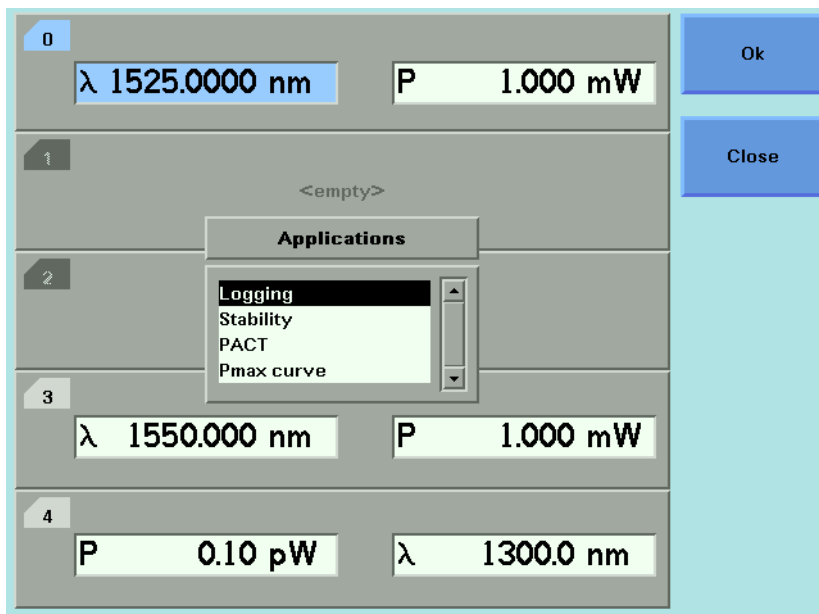

Figure 160 The Applications Menu
- 1 Press the *Appl* hardkey. The Applications menu, as shown in Figure 160 on page -262, appears.